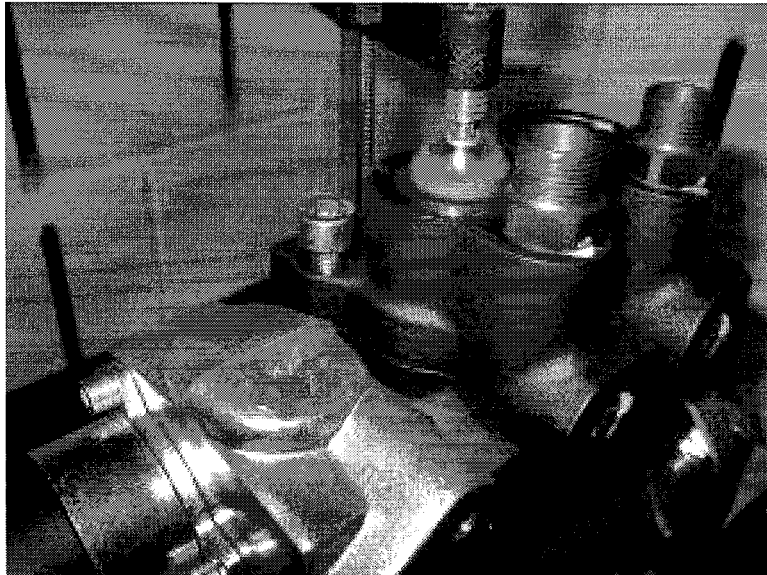

Figure 12 – High Pressure Fuel Pump Element Installation
20. Install the C-clamp with a non-marring clamping surface (i.e., plastic or rubber) and pull the pumping element straight down onto the pump housing with the clamp. See Figure 12.